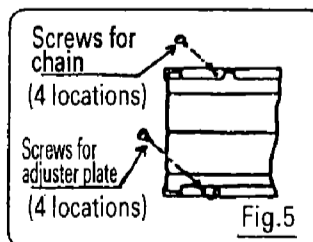

Fig.5
a. Remove the chain and set the same screws to the same place temporarily, and also set the 4 screws for the adjuster plate temporarily. (Fig. 5)